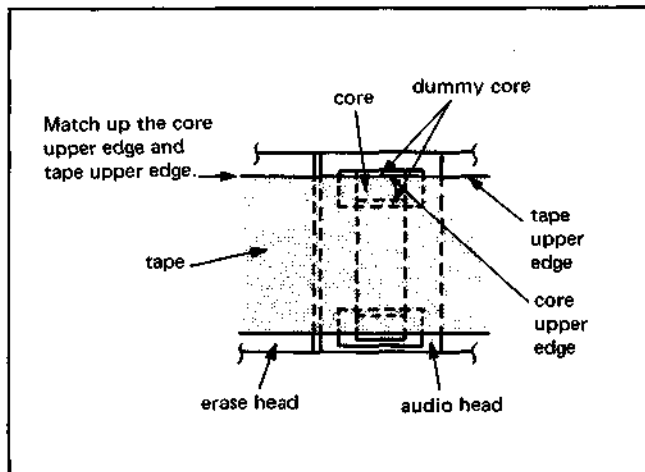

Fig. 1-28
- 5) While observing the audio head with a dental mirror, match up the core upper edge and tape upper edge as in Fig. 1-28, with the two height adjustment screws and the azimuth adjustment screw.